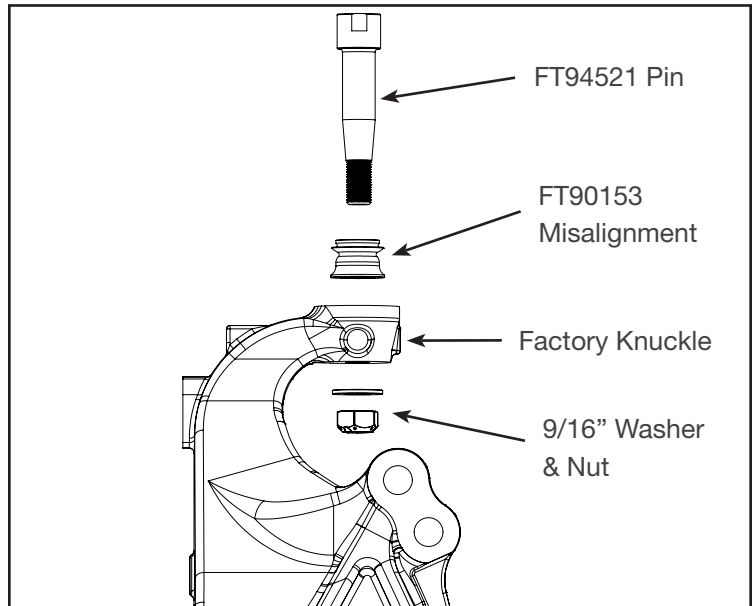

FIGURE 4 - STEP 7
7. Insert FT90153 (Lower Misalignment) onto FT94521 (Uniball Pin). Then, install to the knuckle using the supplied 9/16" washer and nut. Torque to 153 ft-lbs. **SEE FIGURE 4**